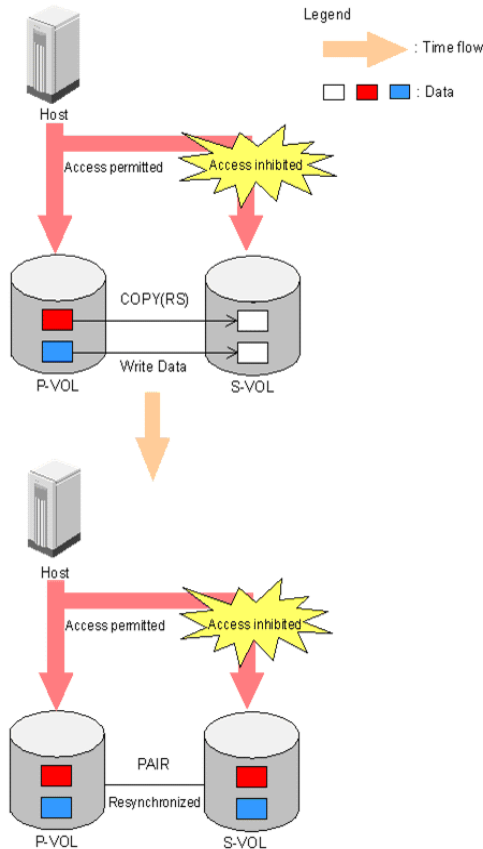

Figure 237 Normal and quick pairresync operations
- **Normal.** This operation (see Figure 237) resynchronizes the S-VOL with the P-VOL. The copy direction for a normal pairresync operation is P-VOL to S-VOL. The pair status during a normal resync operation is COPY(RS), and the P-VOL remains accessible to all hosts for read and write operations during a normal pairresync.
- **Quick.** This operation speeds up the normal pairresync operation without copying the P-VOL data to the S-VOL. The P-VOL and S-VOL are resynchronized when update copy operations are performed for duplex pairs (status = PAIR). The pair status during a quick pairresync operation is PSUS(SP) until the